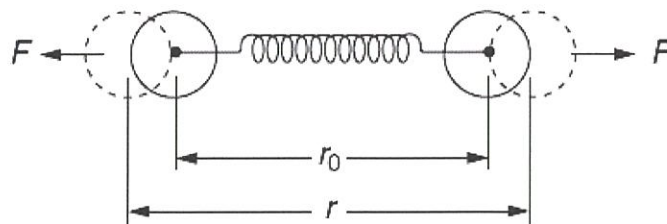

Figure 3. Idealisation of two atoms in a molecule.
- (b) With reference to Figure 3, the potential energy U of two atoms separated by a distance r is given by: